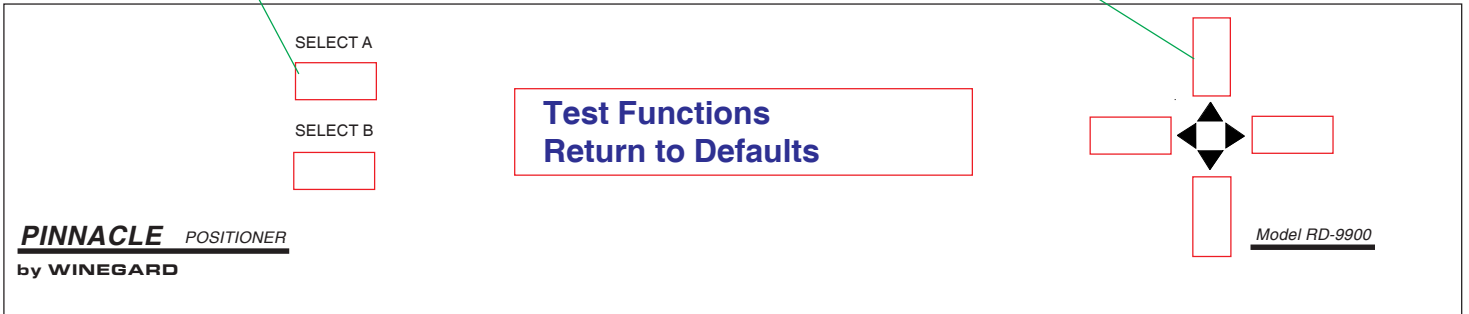

Figure 5
5. Press **[UP/DOWN]** arrow until **Return to Defaults** is displayed on positioner. See Figure 5.
6. Press **[SELECT A or B]** **Return to Defaults**, see Figure 5.